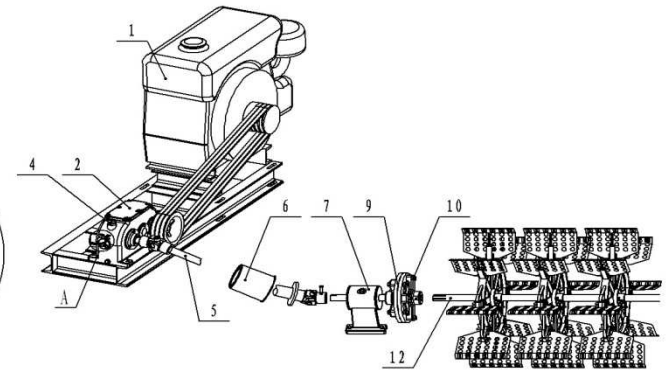

Figure 4
3.3.1 join 10 (cross flange) and 12 (transmission shaft) as figure 4 showed, through keyway and tighten them with screws
3.3.2 Assemble 5 (universal transmission shaft) and 7 (molten bearing base) by splice and tighten them with screws as figure 4 showed. After assembled well, the float part can be put on the water. Notice that since the other side of 5 (universal transmission shaft) will be connected the reducer, so it must be away from water
Assembly and fix the reducer, diesel engine and pedestal on the platform as figure 1 and figure 4 showed; tighten them with screws and set up the triangle strap well (adjust the distance for proper degree of strap tightness)
Assemble 2 (reducer) and 5 (universal transmission shaft) as figure 4 showed (joint reducer and universal transmission shaft through splice and tighten them with screws). The trial running while turning on the diesel engine, the clutch holder must be swung to the uncouple condition and make the diesel engine starting without loading; after that, return the clutch holder to couple to make the impeller rotation while it's low rotate speed. If the multi-impeller paddle wheel aerator is driven by electromotor, the clutch holder is not needed.